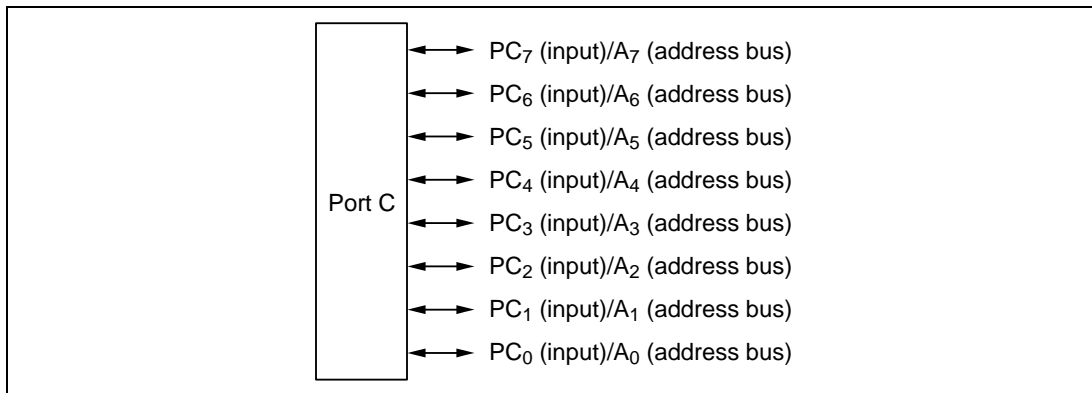

Figure 10-85 Pin Functions in Modes 2 and 4
(2) Pin Functions in Modes 2 and 4: Port C can be used for address output (A_7 to A_0) or general-purpose input. A pin is used for address output if the corresponding PCDDR bit is set to 1, and for general-purpose input if this bit is cleared to 0. Figure 10-85 shows the pin functions in modes 2 and 4.